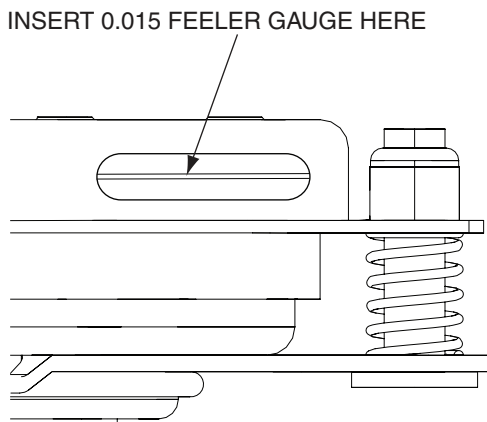

Figure 6-11. Clutch Air Gap Adjustment
2. Place a 0.015 feeler gauge in the slot between the rotor and the armature. See Figure 6-11.